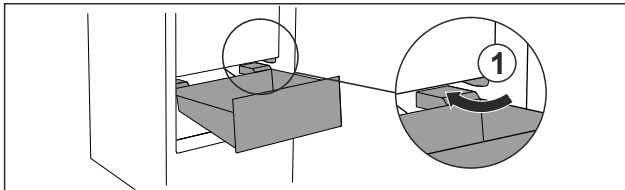

Fig. 77
- Guide drawer in at an angle around the stoppers Fig. 77 (1).